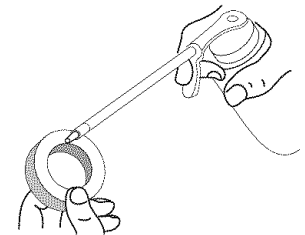

Fig. 20
4. Apply enough clean SAE 30 oil to lightly coat the filter (Fig. 20).